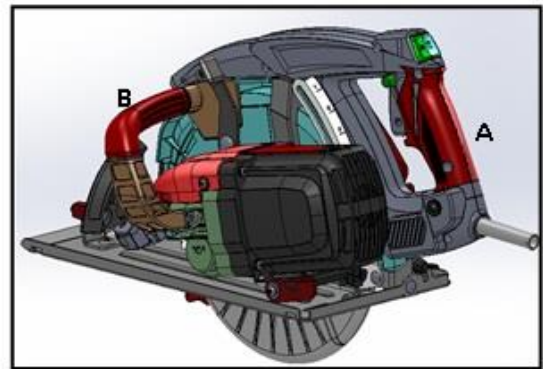

Fig.18
Use right hand to hold the rear handle (A) and left hand (B) to hold the forward handle. Once the blade reaches full speed, steadily push the saw into the material to be cut. Keep moving smoothly until the cut is finished. **Fig.18.**